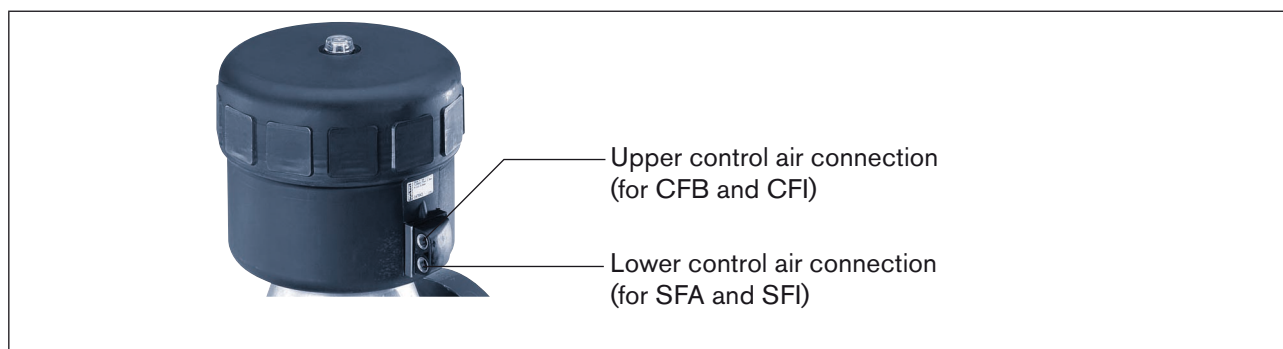

Figure 15: Control air connection
→ Pressurize lower control air connection with compressed air (value as indicated on the rating plate) (see *Figure 15: Control air connection*).
- Pressurize lower control air connection with compressed air (value as indicated on the rating plate) (see *Figure 15: Control air connection*).
- Pressurize upper control air connection with compressed air (value as indicated on the rating plate) (see picture below *Figure 15: Control air connection*).